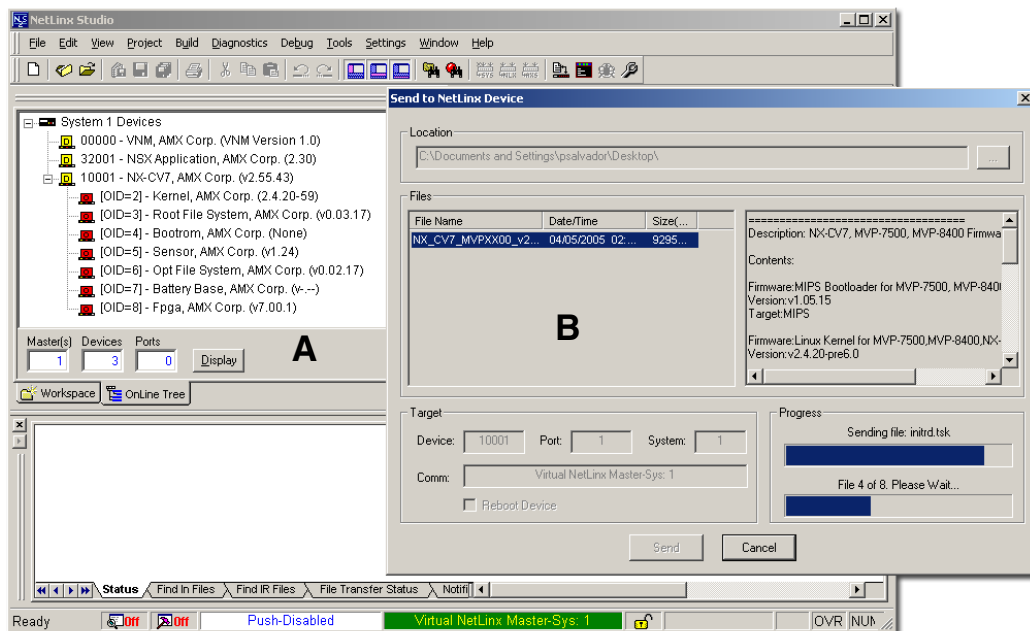

FIG. 49 Using USB for a Virtual Master transfer
7. From within Studio, select **Tools > Firmware Transfers > Send to NetLinx Device** from the Main menu to open the Send to NetLinx Device dialog (**B** in FIG. 49). Verify the panel's System and Device number values match those values listed within the System folder in the **OnLine Tree** tab of the Workspace window (**A** in FIG. 49).
11. Click **Send** to begin the transfer. The file transfer progress is indicated on the bottom-right of the dialog (**B** in FIG. 49).